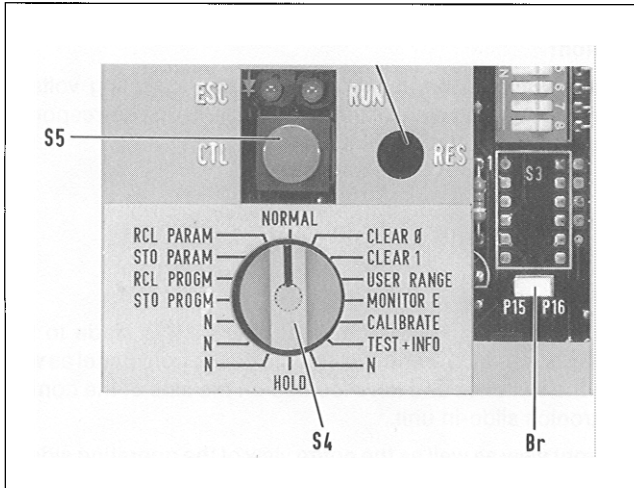

Fig. 2.2
1. Place jumper Br (see Fig. 2.2) horizontally, thus canceling the write protection.
3. Tip key S5, the code $\&_0$ range start or $\&_r$ range span (can be switched with key 3) appears on the digital display.
4. Move the decimal point to the position to be modified **simultaneously** with key 10 and ∇ or \blacktriangle .